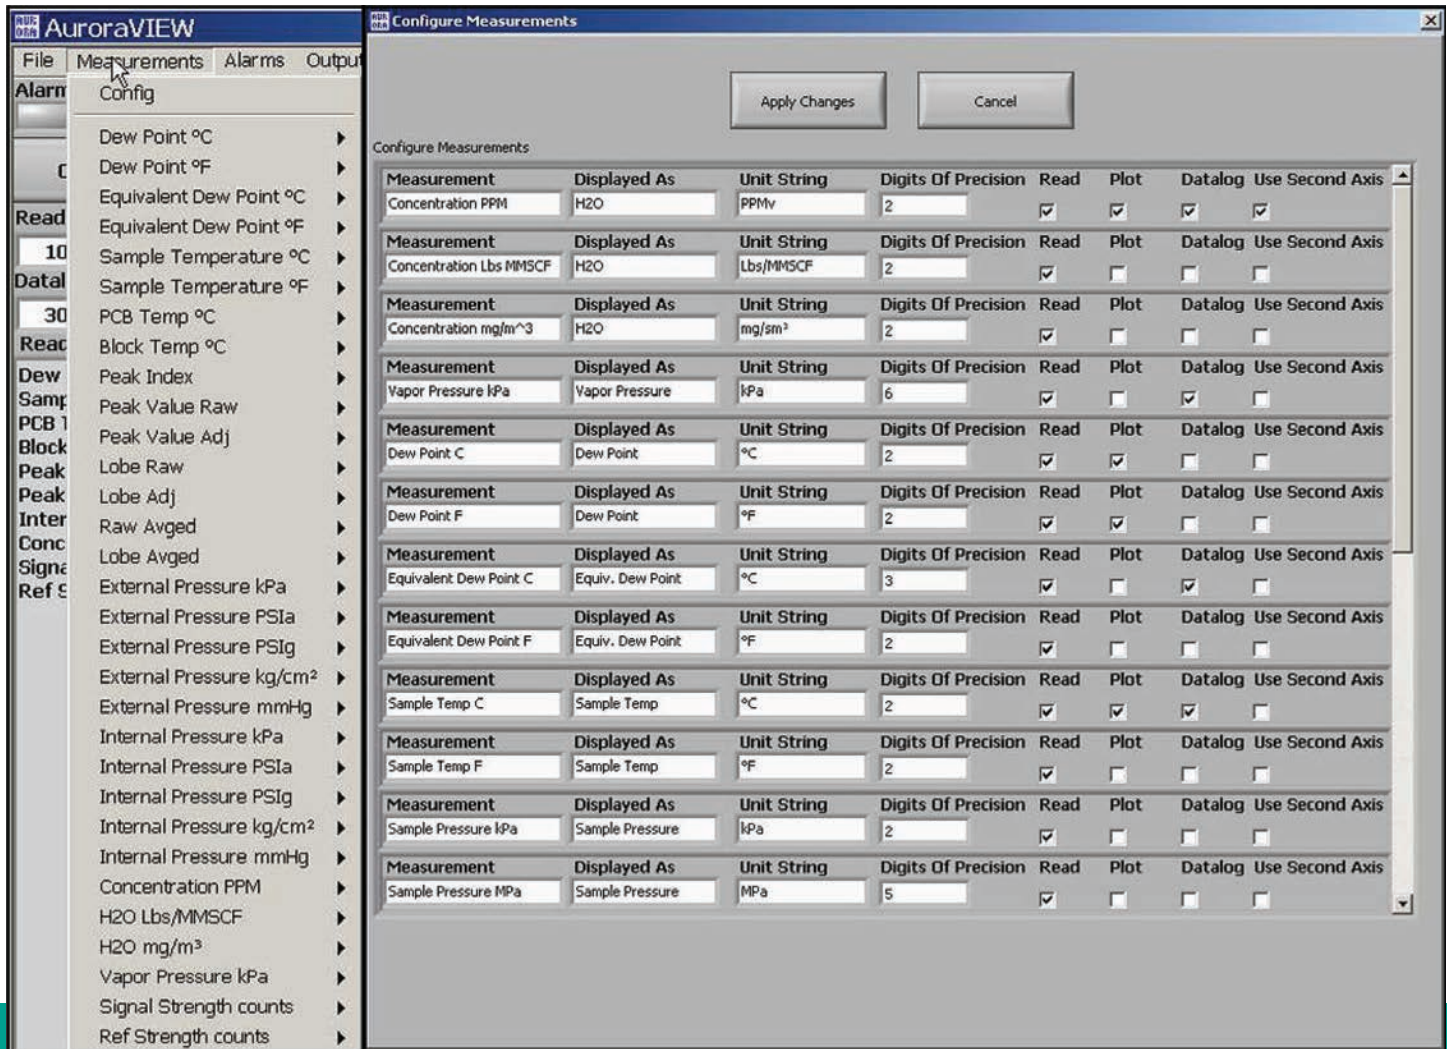

Figure 56: Configuration measurements
1. Click **measurements** → **config** (see Figure 56 below).